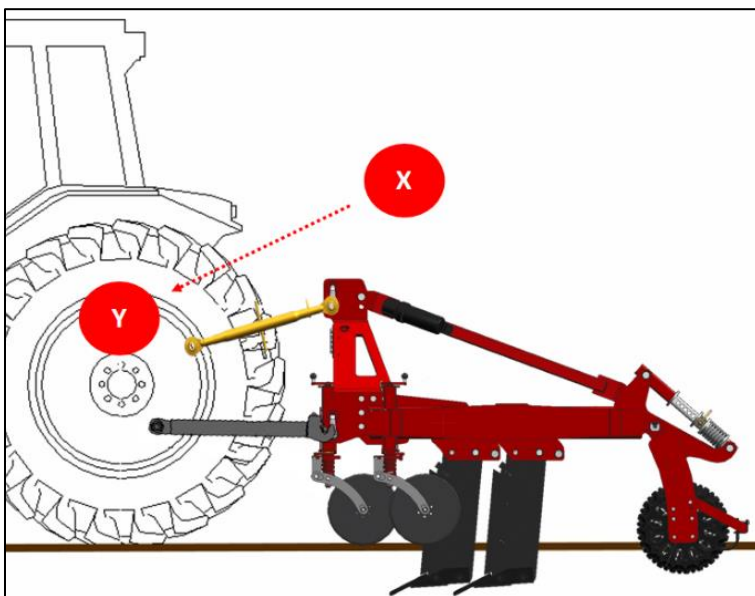

Figure 3 Mounting machine to vehicle.
There are two round mounting options for the top link pin. In operating position, the top link (X) must be higher on the machine side than on the tractor side (Y). See Figure 3. Only in this position is it possible for the machine to move up in case of soil that is not completely flat.